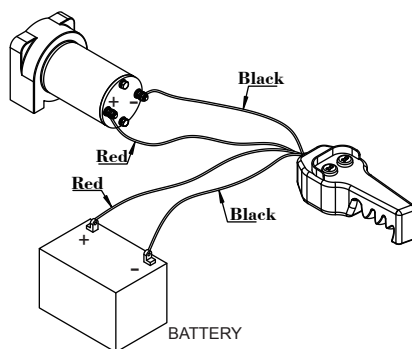

Fig.5
2) Option 2- switch control (see Fig.5)